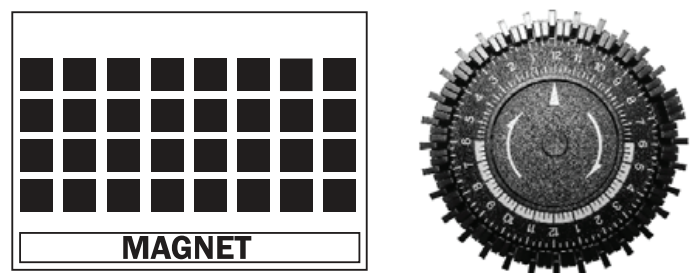

Figure 2: Defrost timer and bypass magnet position for operating in temperatures above 50°F to 90°F.
This allows increased airflow across the evaporator and increases performance by increasing the amount of air that is dehumidified. This temperature range is often found during the first 24 hours of a drying job. When the Phoenix 200 HT is used in cooler operating temperatures (50°F to 70°F), the bypass magnet increases airflow across the evaporator and reduces frost formation. See Figure 2 below for correct bypass magnet position for operating in temperatures from 50°F to 90°F.
3. The timer is fastened to the base at the front of the unit. Every third peg around the dial is pushed out from the dial center except one section with 4 pegs out in a row. The bypass (8 holes at the intake of the unit below the filter) should be open. Refer to Figures 2 and 3.